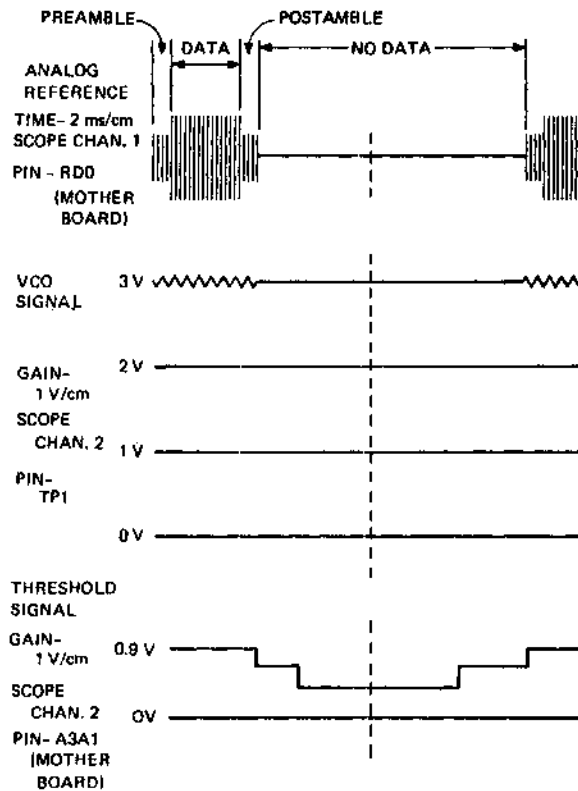

Figure 7-21 VCO and Threshold Waveforms
1. Run test 54. Adjust the potentiometer on M8922 for minimal level shift (dc between data and no data portions of the signal on channel 2 at 3 Vdc level). Refer to Figure 7-21.
1. Run test 54 and verify that pin A3A1 is $0.9\text{ V} \pm 0.1\text{ V}$ during the data section of the analog signal (Figure 7-21).